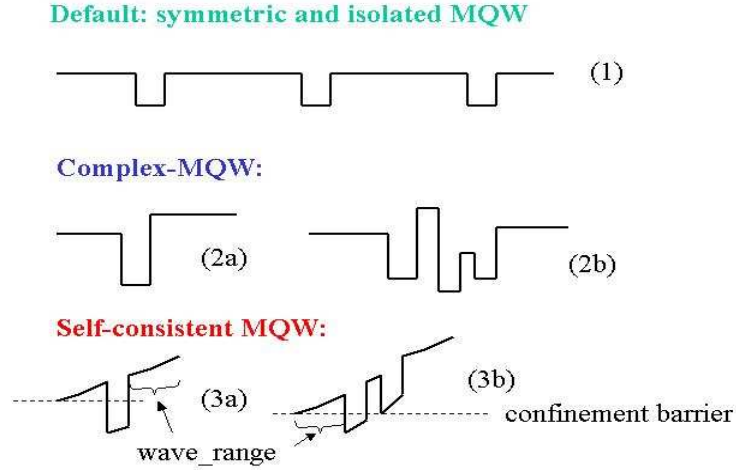

Figure 1.1: Schematic diagram explaining various MQW models
Fig. 1.1 indicates 3 cases of interests. Early versions of Crosslight device simulators assumed all quantum wells in a device are symmetric and well isolated [case (1)] so that quantum mechanical wave functions can be solved analytically (this explains the fast speed of the simulator). A further simplification is that the applied field is relative weak (as in a forward biased laser diode) so that flat band condition can be assume at all times. If a bias is applied, the quantum model still solves itself under flat-band condition but allows the carrier concentration to adjust as if in a
A further upgrade of the above cases (1) and (2) is to relax the flat-band assumption and to apply the quantum mechanical model at all times rigorously, as indicated by case (3) in Fig. 1.1. A relatively simple application of model in case (3) is to relax the flat-band condition in case (1), i.e., isolated, symmetric and non-flat-band situation. This will replace the isolated wells in case (1) by a series wells in case (3a). Even though the materials of the wells are identical, the applied potentials for each well may be totally different. Therefore, the quantum model must be applied separately to all wells as many times as the number of isolated wells. Since each quantum well material number is solved only once, it is necessary we label all the wells by different material numbers even though the macro symbols of `XXX/YYY` are the same. The use of `"independent_mqw"` statement in a `.layer` file will automatically generate different material numbers for different isolated quantum wells, even though the materials are the same.